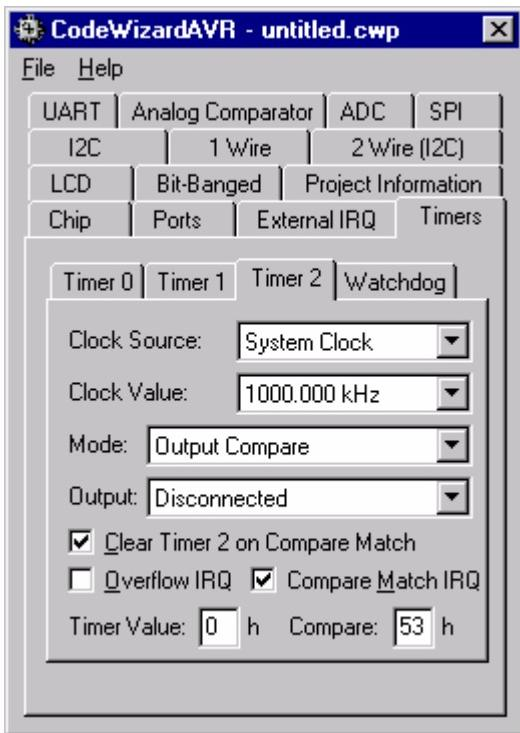

Figure 5: Timer2 Sampling Rate
7) Set the Timer 2 options as shown in Figure 5